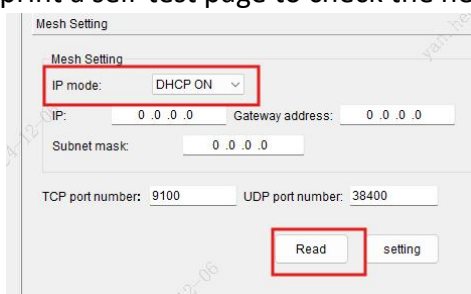

Fig.43
- ② When the computer and the printer are on the same local area network, confirm that the IP mode is set to "**DHCP ON**" in the "**Mesh setting**" interface, then click **[Read]** to obtain the printer's dynamic IP address (shown in Fig.43). If the read IP mode is "DHCP OFF", you need to select "DHCP ON" in the IP mode of the "Mesh setting", click "setting", and then click the "Read" button.